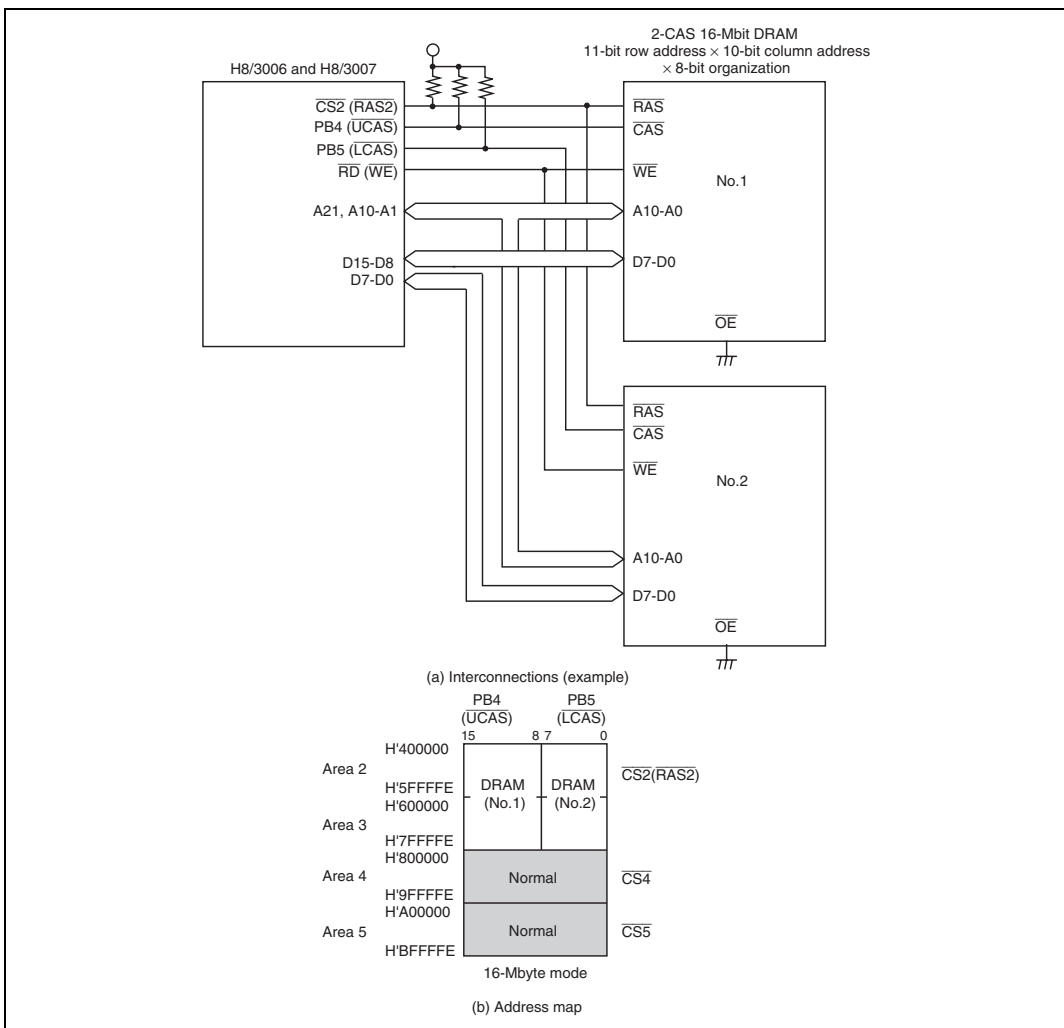

Figure 6.30 Interconnections and Address Map for 16-Mbit DRAMs with $\times 8$ -Bit Organization
- Figure 6.30 shows typical interconnections when using two 16-Mbit DRAMs using a $\times 8$ -bit organization, and the corresponding address map. The DRAMs used in this example are of the 11-bit row address $\times$ 10-bit column address type. The $\overline{\text{CS2}}$ pin is used as a common $\overline{\text{RAS}}$ output pin for area 2 and area 3. When the DRAM address space spans a number of contiguous areas, as in this example, the appropriate setting of bits DRAS2 to DRAS0 enables a single $\overline{\text{CS}}$ pin to be used as the common $\overline{\text{RAS}}$ output pin for a number of areas, and makes it possible to directly connect large-capacity DRAM with address space that spans a maximum of four areas. Any unused $\overline{\text{CS}}$ pins (in this example, the $\overline{\text{CS3}}$ pin) can be used as input/output ports.